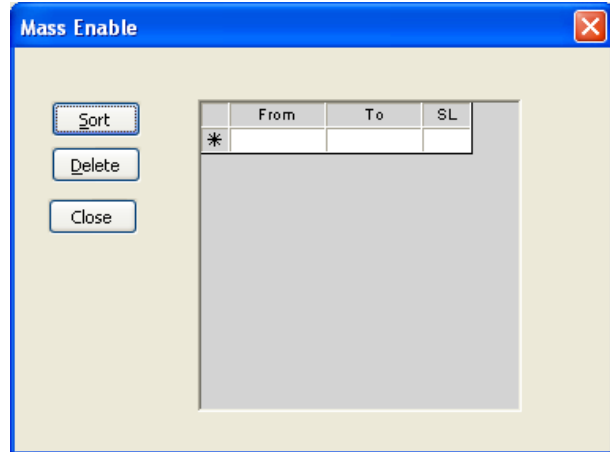

Figure 39
2. Enter the range of codes that you want to mass enable and enter a Security Level for this range if desired (fig. 39). *NOTE: Entering the security level is optional. If the security level is left blank, the software will automatically assign security level 01 to the device codes. Keep in mind that when you assign (see 4.2) a device code to a user in the database, the security level will automatically change to that of the security level assigned to the user.*